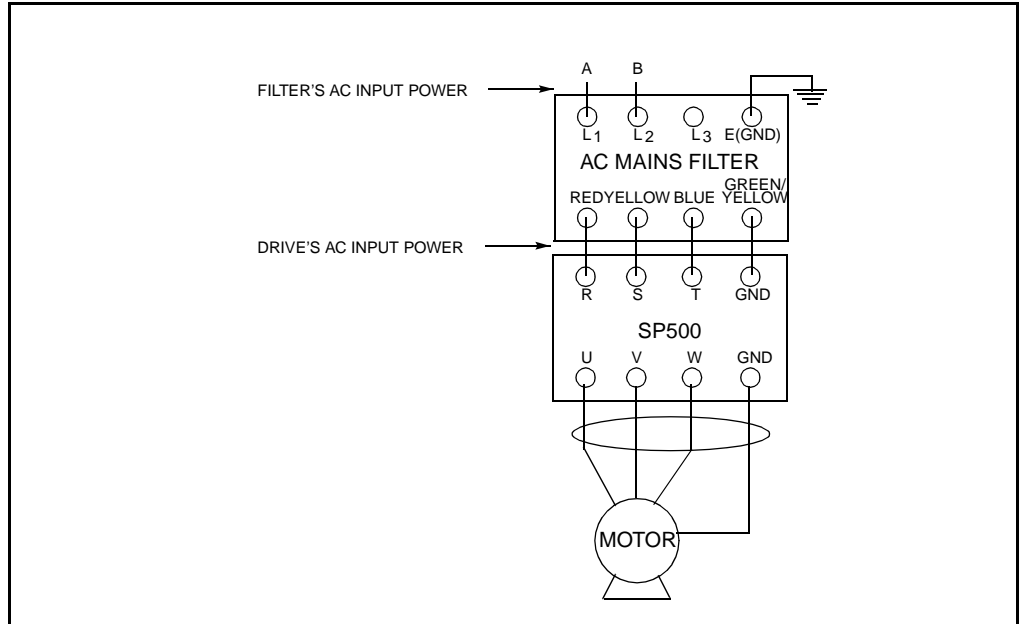

Figure E.2 - Typical SP500 Single-Phase Connections
This section describes how the SP500 drive must be wired to conform to the standards listed in section E.0. See figures E.2 and E.3 for typical SP500 connection diagrams.
The power leads that connect the output terminals of the AC Mains Filter to the drive's AC input terminals are included with the filter. The flexible conduit to be used with these power leads is also provided. See figures E.2 and E.3.
- When the drive is connected to single-phase AC input power, follow the color coding shown in figure E.2 and connect all three filter output leads to the drive's AC input power terminals.